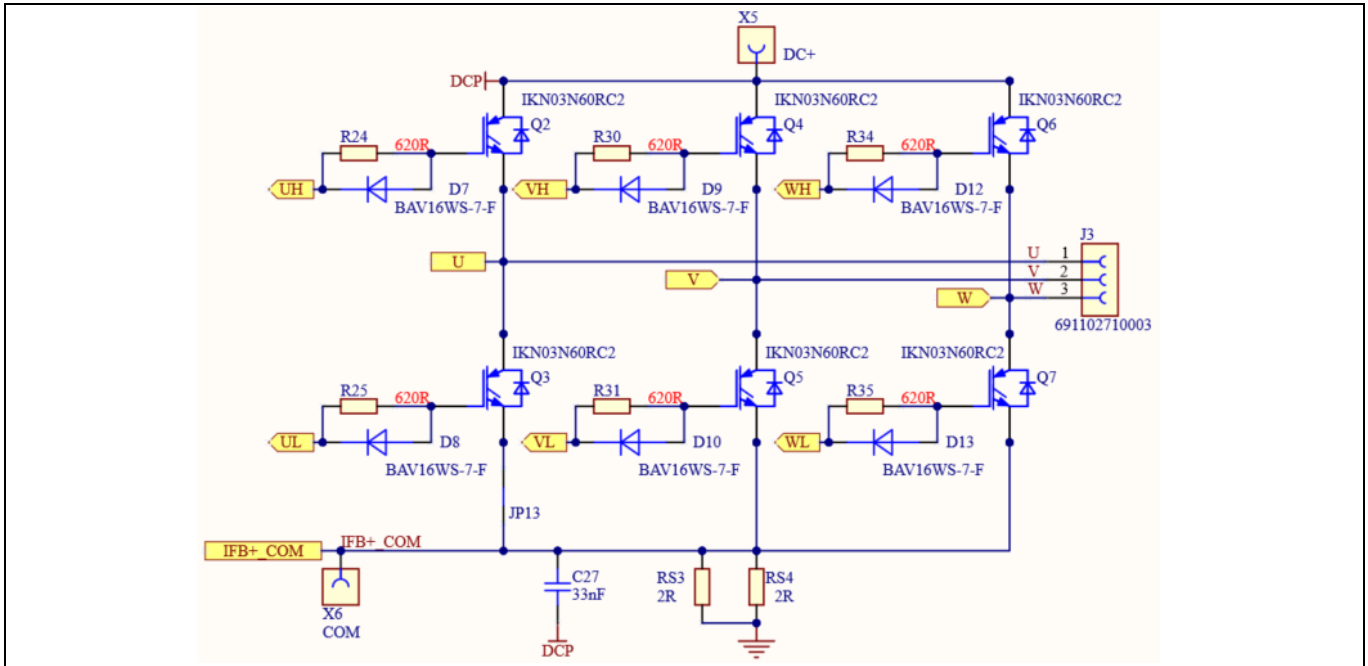

Figure 24 Motor current-sensing circuit on the board
As an example in Figure 24, this board has the following values: $R_1 = R_4 = 47 \Omega$, $R_2 = R_4 = 1 \text{ k}\Omega$, $R_s = R_{S3}/R_{S4} = 1 \Omega$, $V_{cc} = 5 \text{ V}$. By using the formula in Eq. 5, the offset is 224 mV, and the gain is $\frac{R_2}{R_1 + R_2} * R_{shunt} = 955 \text{ mV/A}$. Because the amplitude attenuation of low-pass filter, the gain needs to be amended to 909 mV/A for MCEWizard configuration.
- R_1 and R_4 in Figure 24 determine the ADC operational bias for current sensing, which corresponds to the motor regeneration operation range. For applications that do not work with a regenerative braking mode, the bias can be as low as possible to reserve enough ADC range for the drive mode, since the current in the sense resistance always flows in one direction only. In this example, the offset is 224 mV.
The internal comparator's reference level is set by the internal digital-to-analog converter (DAC) so the level can be set in the MCEWizard by "Overcurrent Trip Level for Internal Gatekill Comparator" and "Motor1 current input to ADC offset voltage." The DAC output pin REFU needs to be connected to a capacitor to improve noise rejection (e.g. a 100 nF/25 V capacitor is used on the board as shown in Figure 24).